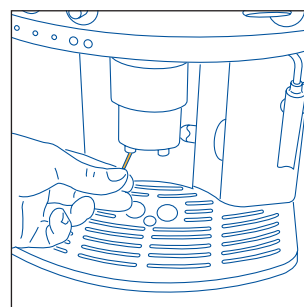

Fig.28
- Check that the holes in the coffee delivery spout are not blocked. To clean them, scrape the dry coffee residues with a needle (Fig. 28).